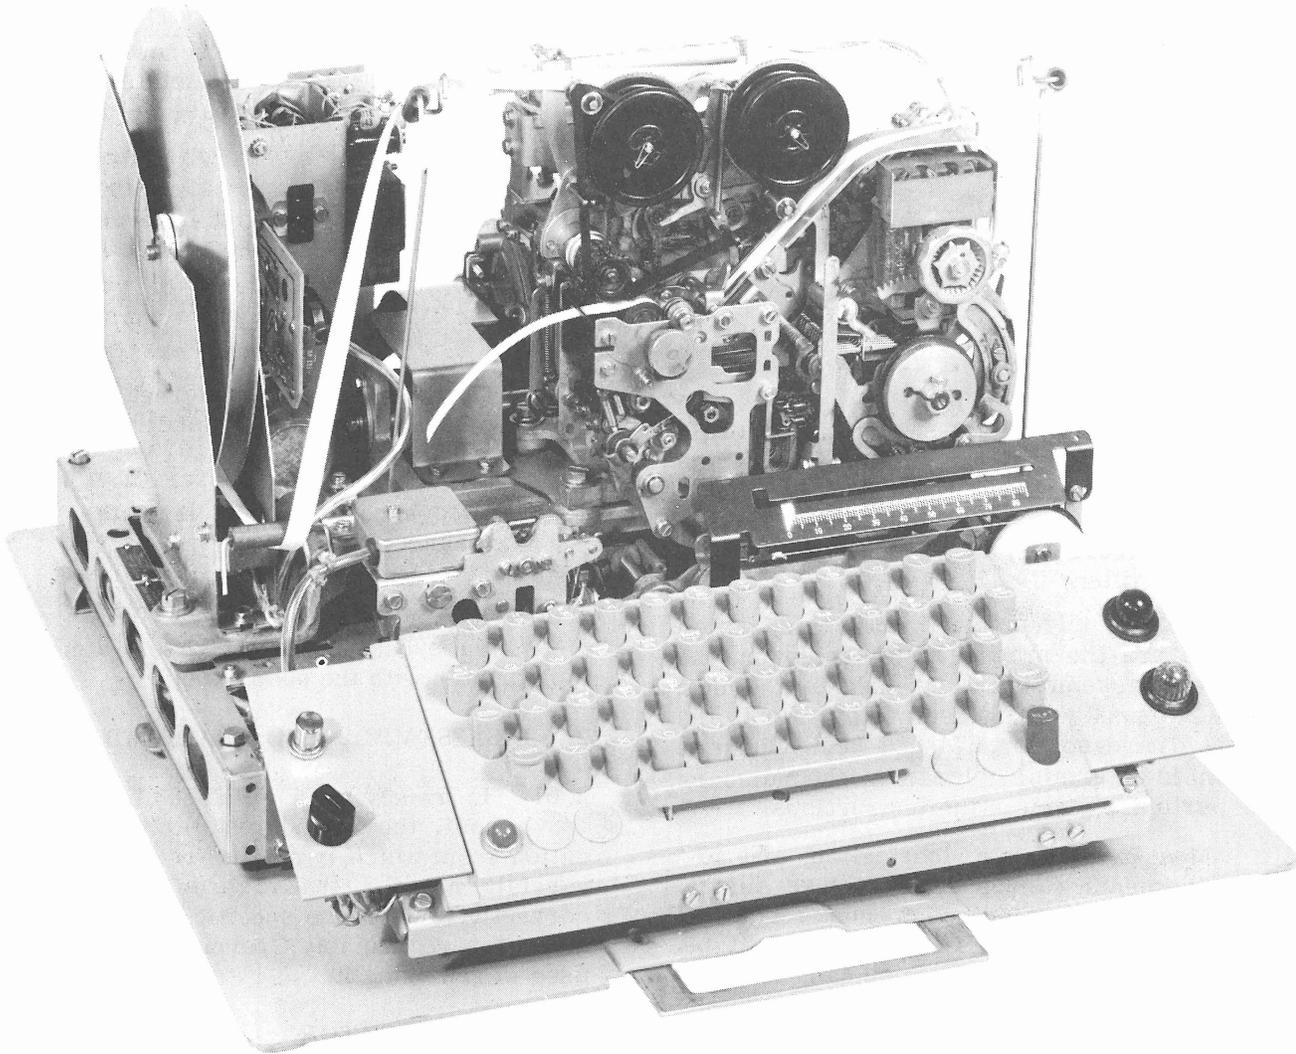

Figure 1 - 35 Keyboard Tape Printer Set - Cover Removed
1.01 This section is reissued to incorporate recent engineering changes on the disassembly and reassembly of the 35 tape printer keyboard (Figure 1). Since this is a general revision, marginal arrows, used to indicate changes, have been omitted.